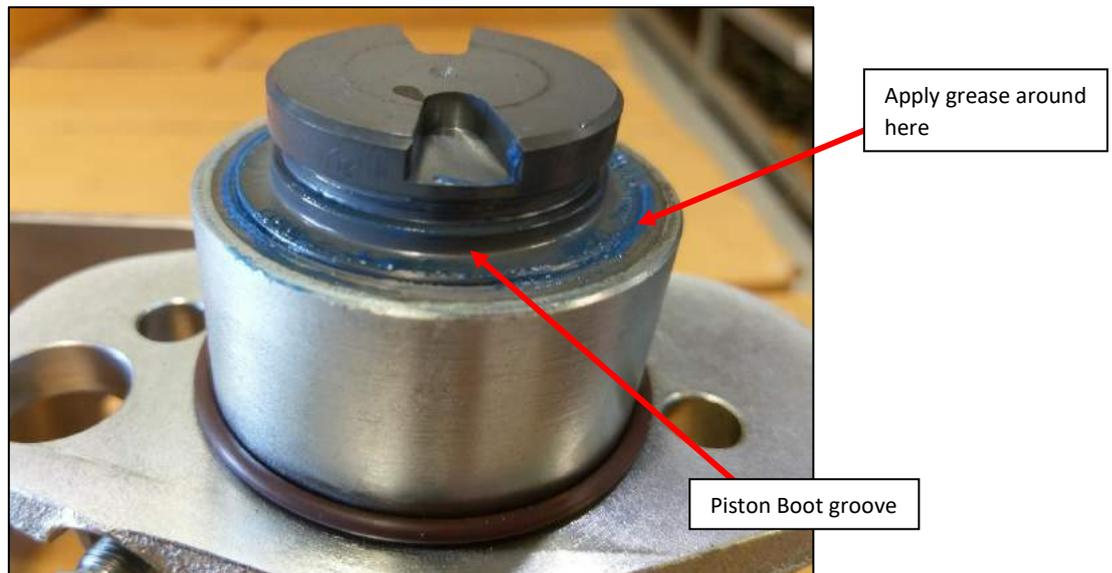

Figure 74
22. Position the piston boot on top of the piston with the boot flange properly oriented. The small dimples on the boot should be toward the mechanism housing (Figure 74).